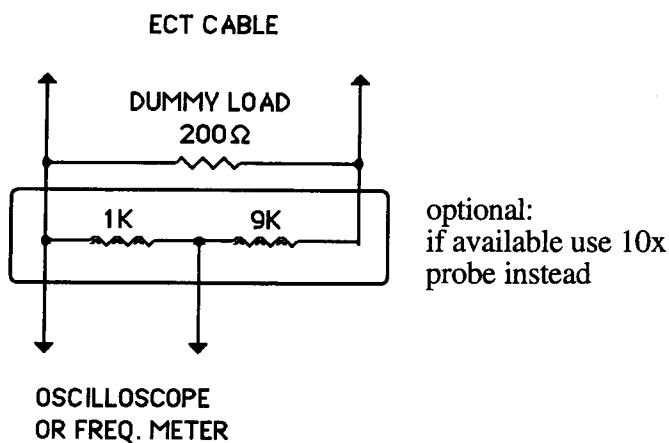

fig. 3.2
- 3.2 Connect Oscilloscope across the dummy load. Be sure the scope can measure up to 500 volts. If not, construct a high impedance divider such as in fig. 3.2.
Connect a frequency counter to the dummy load divider as in fig. 3.2. Set up proper triggering. Make sure the overshoot does not double trigger the counter. Set the counter to period measure. Set PERCENT ENERGY dial to 100% and press TREAT button. The reading should be 14.28 msec \pm 5% which corresponds to 70 Hz. Set PERCENT ENERGY dial to 50% and press TREAT button. The reading should be 20.00 msec \pm 5% which corresponds to 50 Hz. Set PERCENT ENERGY dial to 20% and press TREAT button. The reading should be 33.33 msec \pm 5% which corresponds to 30 Hz.